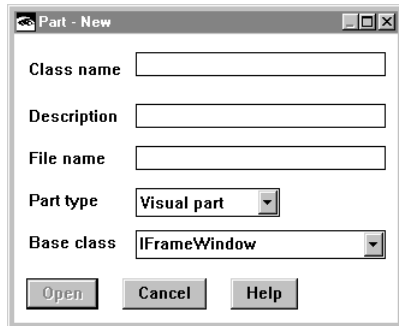

Figure 3. The Part–New Window
1. Select **Part**→**New**. Visual Builder displays the Part-New window, as shown in Figure 3 on page 9.